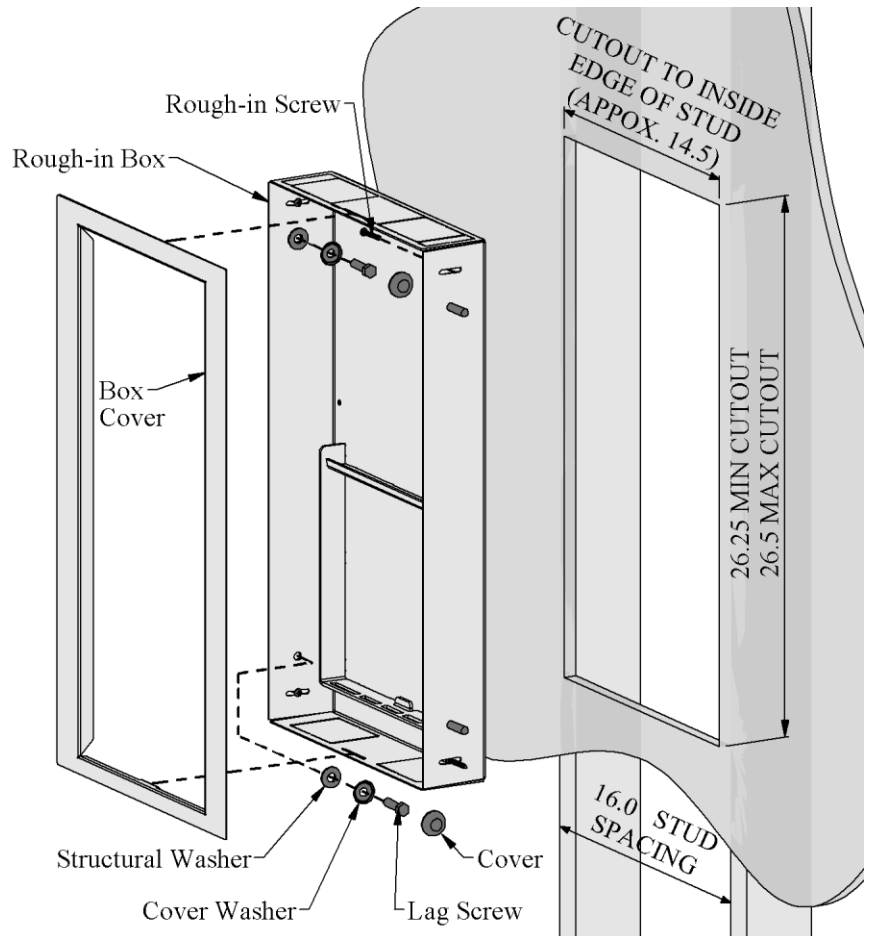

Figure 4, Attaching to Wall
1. Figure 4 and Figure 6 show how the mount gets laid out in the wall.
6. Figure 4 shows the correct order to put on the lag screw.